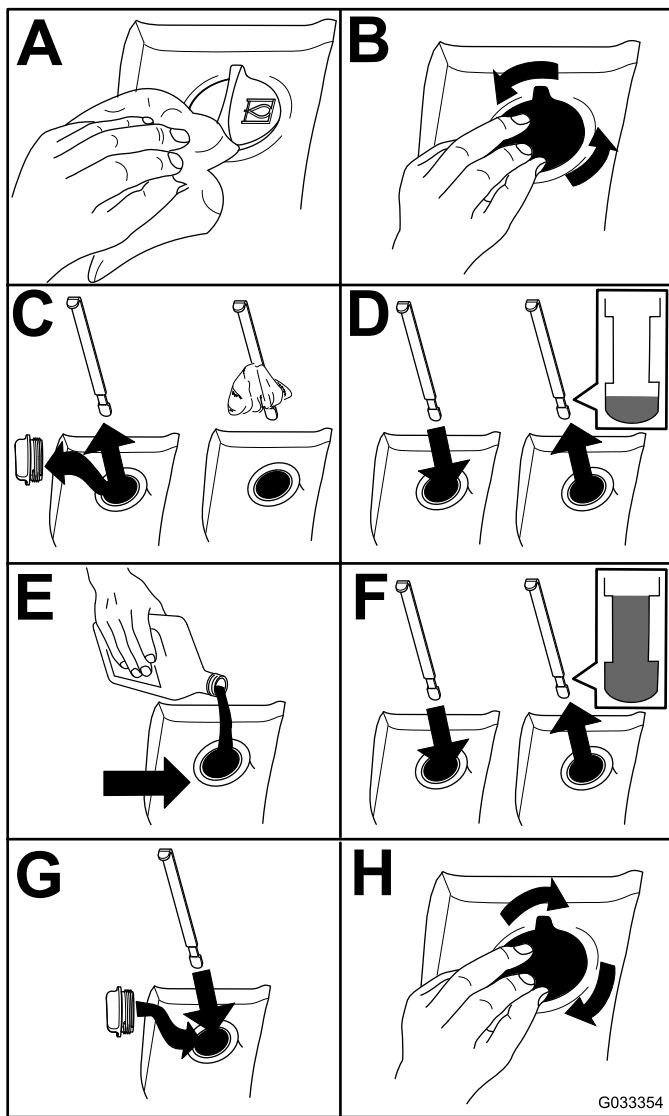

Figure 71
2. Check the hydraulic-fluid level (Figure 71).